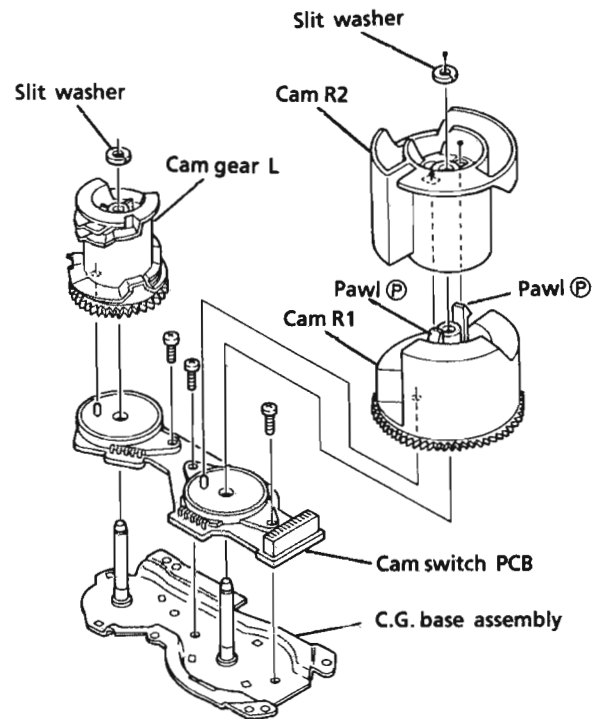

Fig. 41
(See Fig. 41.)
(27) Removal of C.G base ass'y
Remove 3 screws ③ securing the C.G. base ass'y. (See Fig. 41 and 42.)